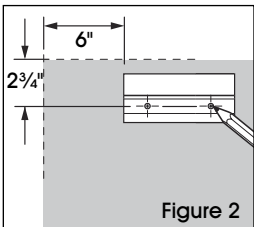

Figure 2
2. Mark wall at centers of bracket holes. (See Figure 2)